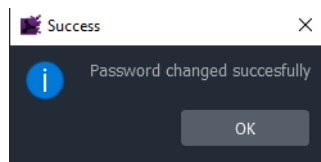

Fig. 4-19: Password Changed Successfully Message
- 4 Click **OK** to change the password or click **Cancel** to abandon the change. If a new password has been set, a “Password changed successfully” message is displayed; click **OK**. See Figure 4-19.